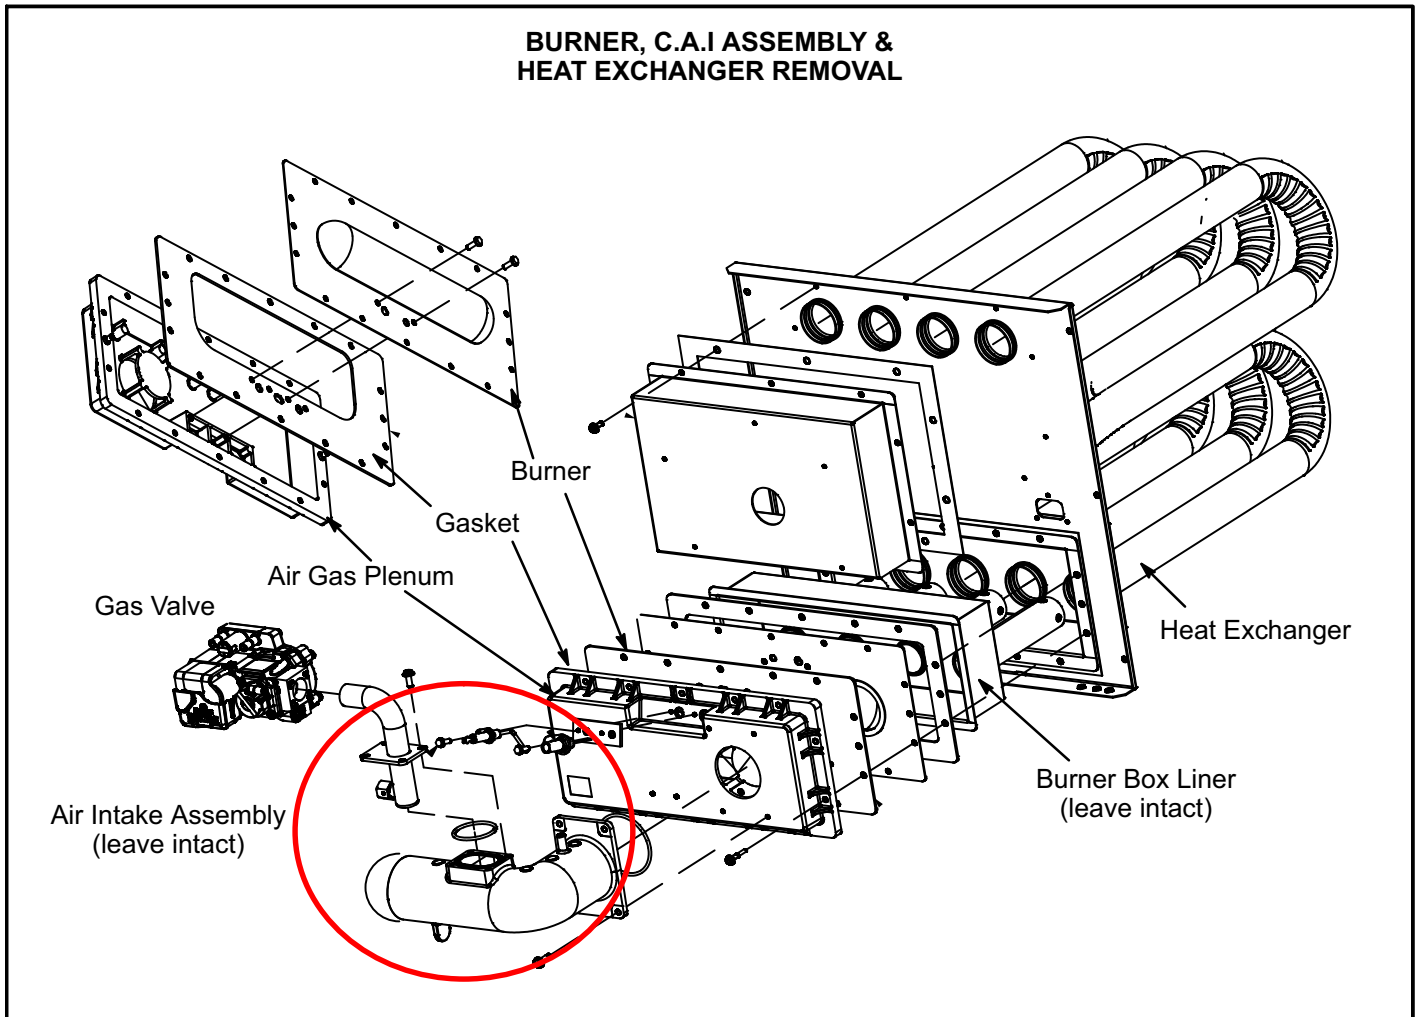

FIGURE 23
- 9- To clean burner, remove from the air gas plenum and run a vacuum cleaner over the face of burner. Visually inspect inside the burner for any blockage caused by foreign matter. Remove any blockage. Figure 23 shows burner detail. Replace gasket between burner plate and air fuel plenum then re-install burner plate.